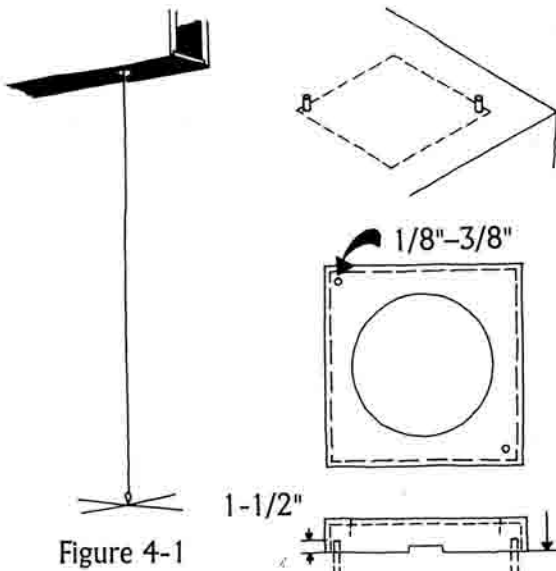

Figure 4-1
1. Mark the column location desired in the side-to-side center of the soffit. Then drop a plumb line from that mark to the deck for shaft centerline (Fig. 4-1).